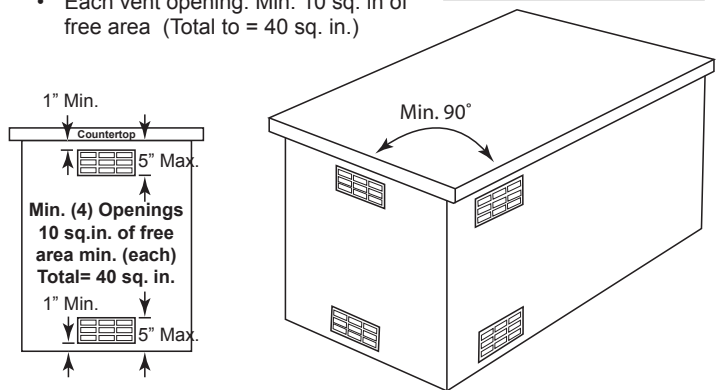

Figure 9
- Two openings should be in the side walls of the enclosure, at the top and spaced a minimum of 90° from each other. The openings should begin 1" or less below the countertop edge and end no more than 5" below the countertop edge. See Figure 9.
The clearance between the openings and any items outside of the enclosure is a minimum of 6". The clearance between the openings and any items within the enclosure is a minimum of 2". This provides free flowing air inside and outside the enclosure to keep the island cool during operation of the side burner. See Figure 9.